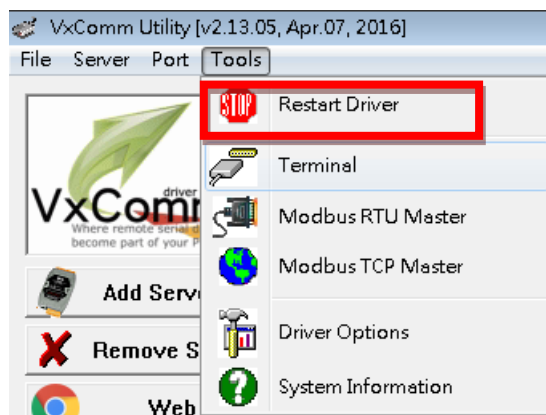
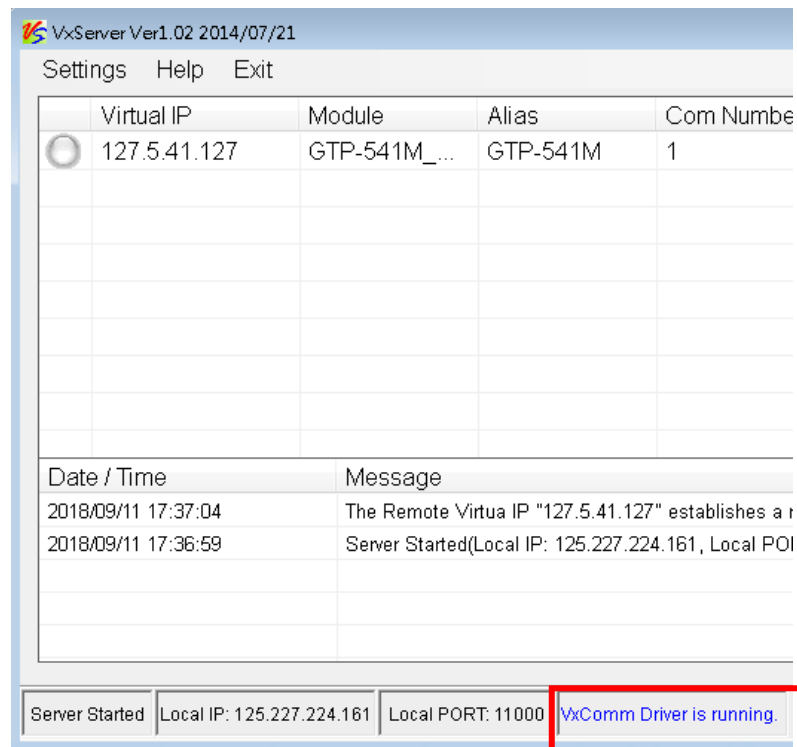

Figure 7.10.18
Figure 7.10.19
J. After the setting is completed, click the “Restart Driver” update status in the upper left toolbar “Tools” as shown in Figure 7.10.18. At this time, “VxComm Driver is running” will be displayed at the bottom of the VxServer screen as shown in Figure 7.10.19. ◦